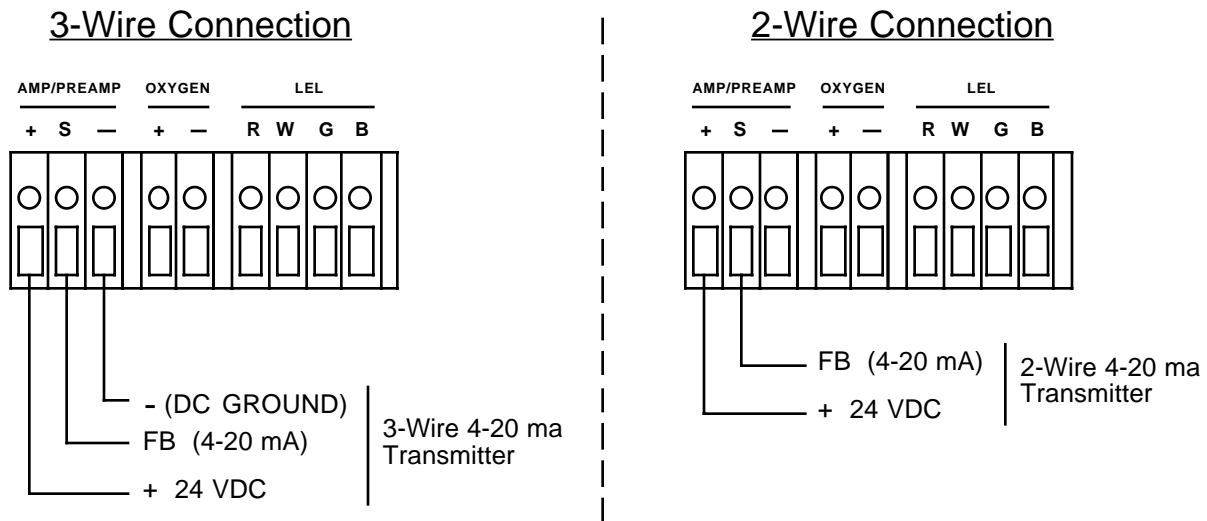

Figure 10. Generic 4 to 20 mA Transmitter Output Wiring
6. Connect the wires from the transmitter to the appropriate detector/transmitter terminals. The top detector terminal strip is for channel 1 and the bottom one is for channel 2. See the transmitter instruction manual for controller terminal connections. Figure 10 below illustrates typical transmitter wiring connections.